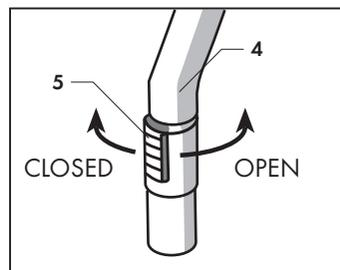

Fig. 9
This accessory is equipped with a flow divider ring (5), which allows suction power to be regulated (Fig. 9).